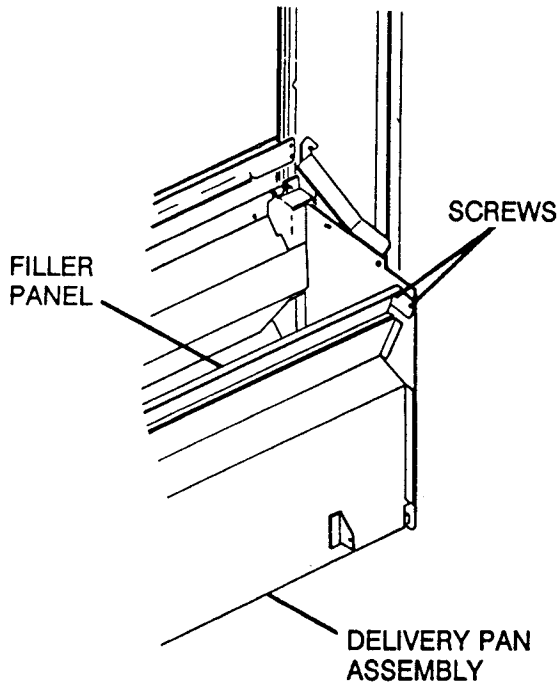

FIGURE 4. Filler Panel Removal
1. Remove the four screws securing the delivery pan filler panel and remove the panel from the assembly. Refer to Figure 4.